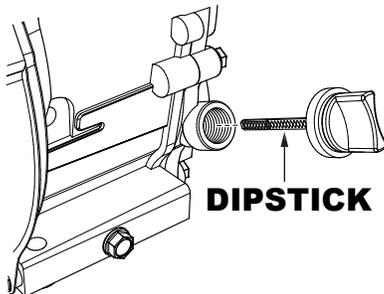

Figure 7. Engine Oil Dipstick Removal
2. Remove the filler dipstick from the engine oil filler hole (Figure 7) and wipe clean.